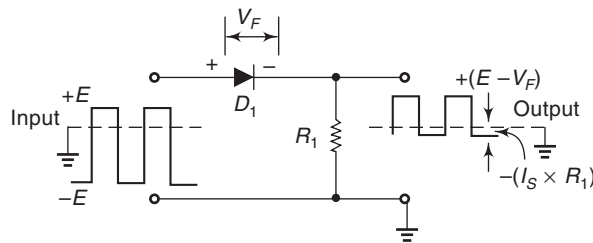

Fig. 8.39 For Problem 14.
14. The negative series clipping circuit is to have an input of $E = \pm 50 \text{ V}$. The output current from the circuit is to be $I_L = 20 \text{ mA}$ and the negative output voltage is not to exceed -0.5 V . Calculate the value of R_1 , and specify the diode in terms of forward current, power dissipation, and peak inverse voltage. The reverse leakage current can be taken as $5 \mu\text{A}$. (See Fig. 8.39)